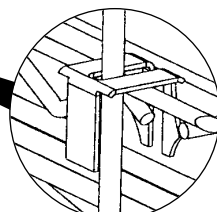

figure 8
- Clip the rods to the bottom shelf with the clips provided (see figure 8).